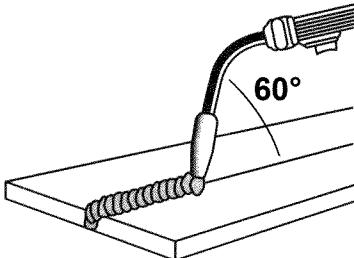

Figure 14. Flat Position
1. The FLAT POSITION (Figure 14) is the easiest of the welding positions and is most commonly used. It is best if you can weld in the flat position if at all possible as good results are easier to achieve.